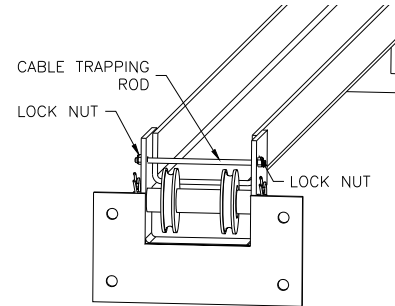

Fig 3-Cable Trapping
- 15) At the upper beam sheave locations disassemble and reassemble the cable trapping rod to install the cable onto the sheave, **See Fig 3**. To install the cable bottom sheave will need to be removed then reassembled.